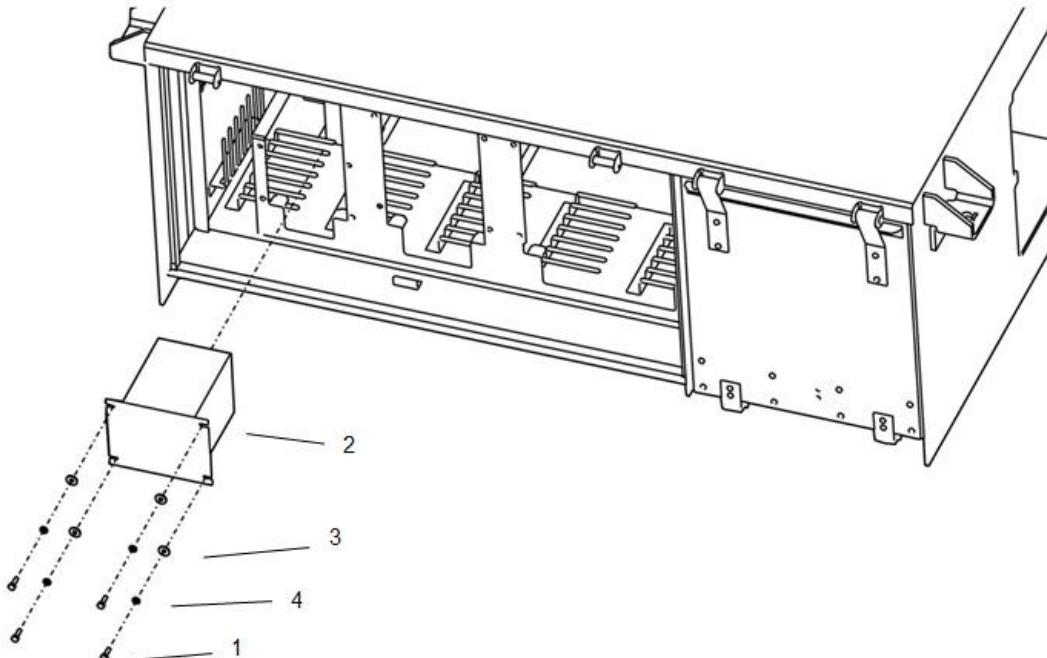

Figure 5-10: Gateway Unit Installation
1. Remove the various electrical connections from the front of the Gateway Unit (2).
2. Remove the four M6 screws (1) by using a 10 mm socket and remove Gateway Unit (2) as shown in Figure 5-10.
1. Reinstall the new Gateway Unit (2) and tighten the hex screws (1) to 5.8 Nm (51 in-lbs.) as shown in Figure 5-10. Use flat washers (3) and lock washers (4).